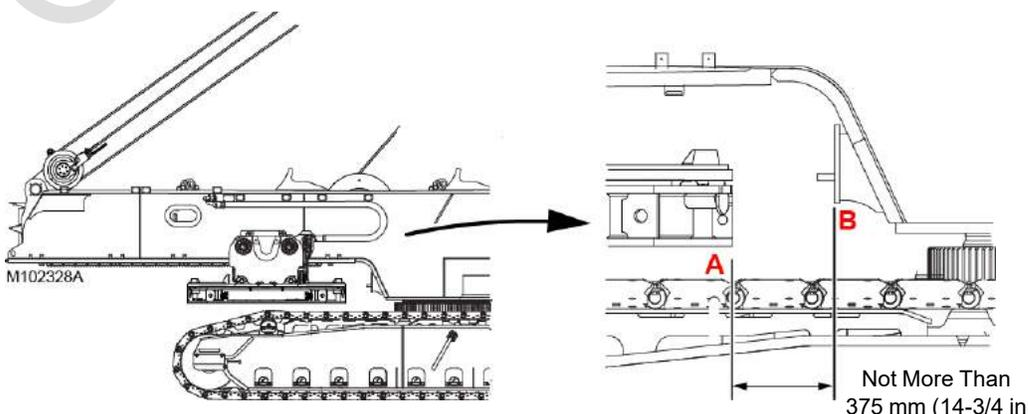

Figure 4-46
- Do not install (or remove) the counterweight boxes until the counterweight tray is traveled to the position shown in Figure 4-46. The crane will tip.
- Travel the VPC trolley forward using the switch on the remote control until the distance from the front edge (A, Figure 4-46) of the counterweight tray to the edge (B) of the rotating bed is no more than the dimension given.